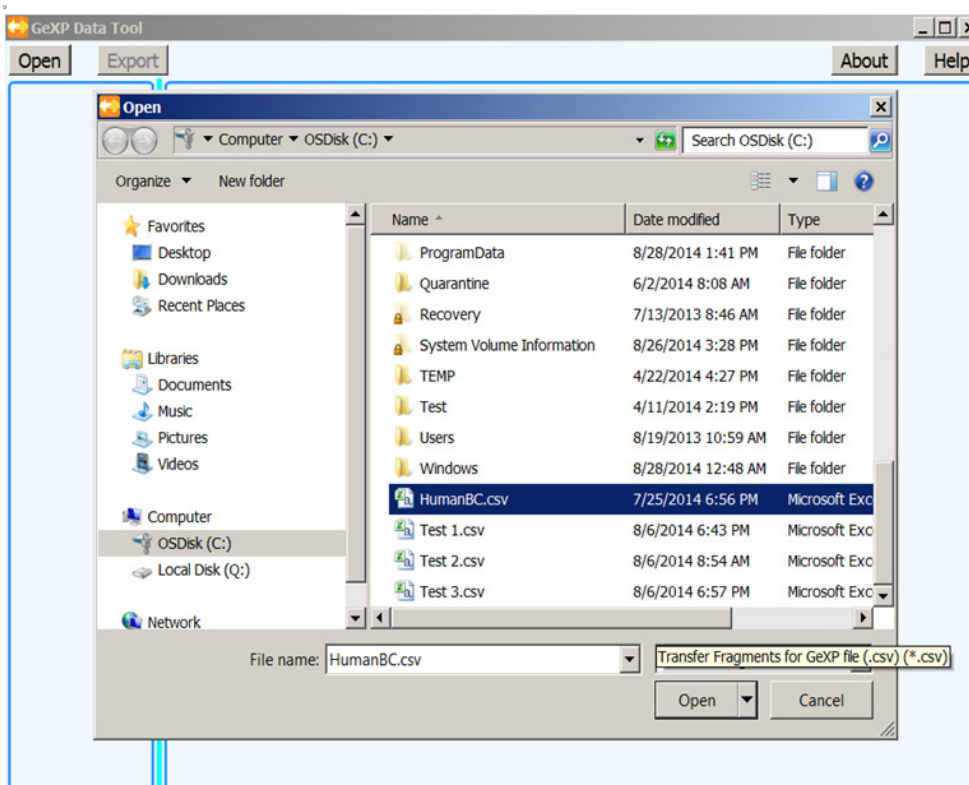

Figure 7.22 Select and Import a Data File
- Input data files for the GeXP Data Tool must be a valid GeXP Fragment Application file that is exported via the **Transfer Fragments for GeXP** selector. Refer to Figure 7-22.
1. Click the **Open** button. Refer to Figure 7-22.
Additional data file can be loaded onto the GeXP Data Tool that already has a data file imported. See Figure 7.22.